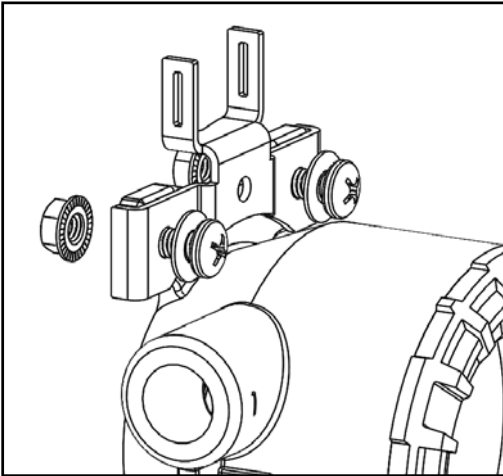

Figure 4
- (1) Slide the pipe mount bracket onto the Ultima X5000 as outlined in the pipe mount instructions section (refer to PN 10180895).
- (2) Once aligned, loosely install the top two 3/4" pan head screws and 1/2" hex flanged nuts provided with the pipe mount kit (reference MSA Kit 10176946) on the top pipe mount bracket tabs as shown below in Figure 4.
Note: Install the screws so that the pan head is oriented as shown in Figure 4.